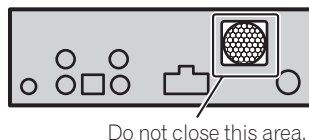

Fig. 6
- The cords must not cover up the area shown in the figure below. This is necessary to allow the amplifiers to radiate freely. (Fig. 6)